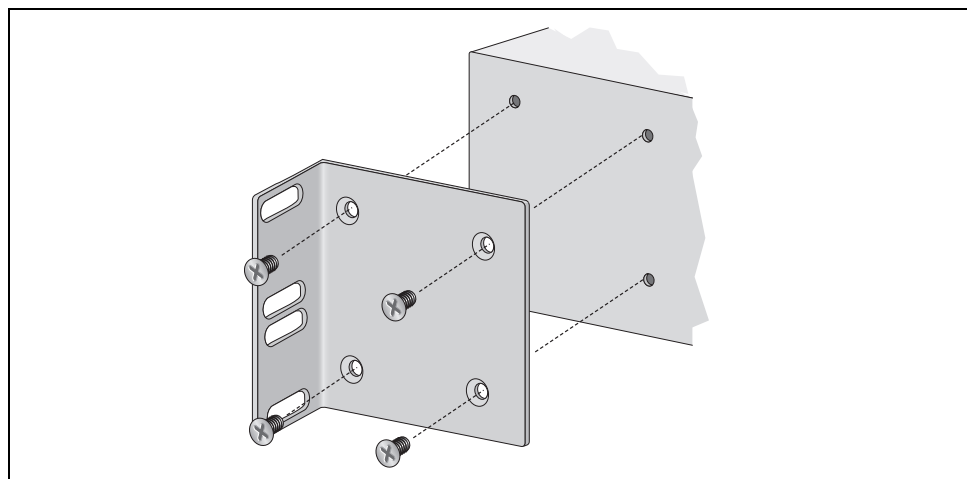

Figure 18. Attaching Rack-Mount Brackets
4. Attach a rack-mount bracket to one side of the switch using four of the screws that come with the switch, as shown in Figure 18.